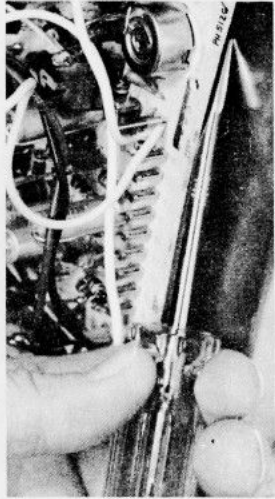

FIGURE 3-4
- C. Monitor Panel (See Figures 3-4 and 3-5)